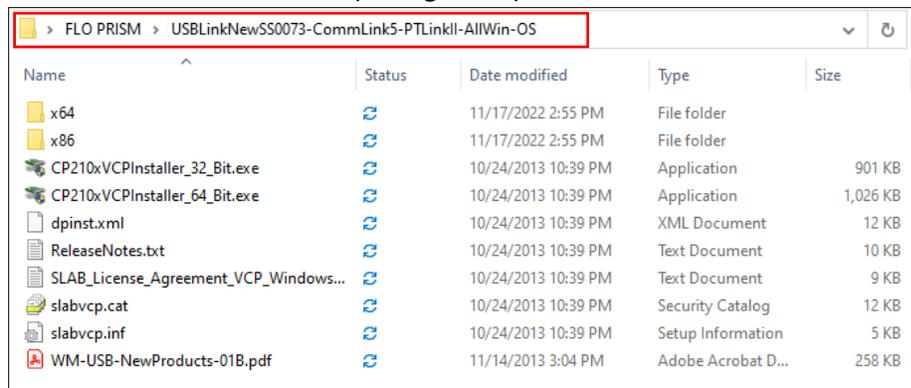

Figure 12: USB Link 2 Driver Folder
6. Open the folder titled **USBLINKNewSS0073** (see figure 12).